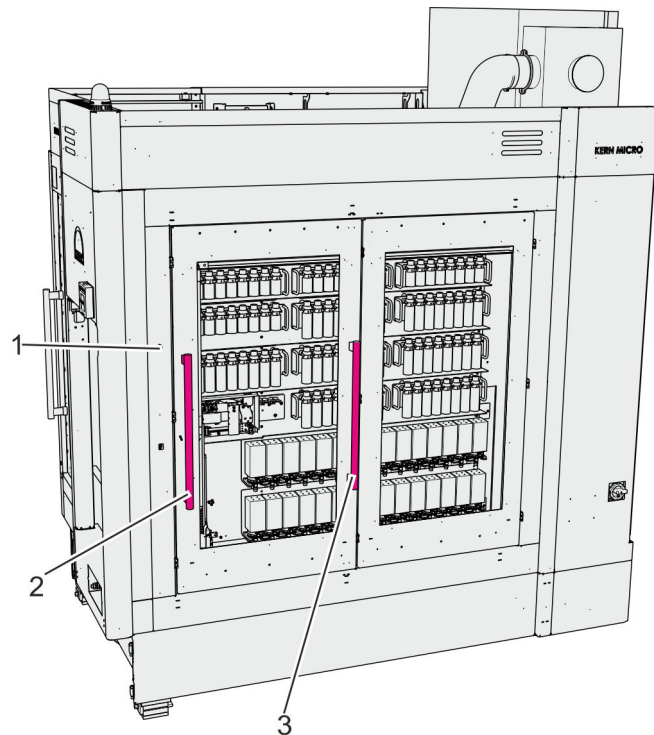

Fig. 48: Tool changer door
1. ➤ Press the illuminated pushbutton (Fig. 48/1).
3. ➤ Pull the door open to the front using the right handle (Fig. 48/3).
4. → Use the left handle (Fig. 48/1) to push the door as far as it will go to the right.